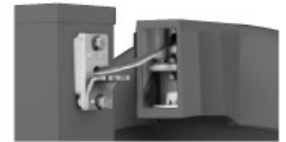

Figure 2
2. Insert the wires from the fixture through the center hole of the mounting block assembly, pulling them into the pole. Place the luminaire over the mounting block while tilted up at a slight angle above horizontal, and then tip back down to horizontal once oriented on the block making certain the wires are not pinched. For ease of installation, the mounting block will hold the weight of the luminaire prior to tightening the mounting bolt. Insert the wires from the fixture through the center hole of the mounting block assembly, pulling them into the pole. Wire connections will be made inside the pole during step 7. (See Figure 2)